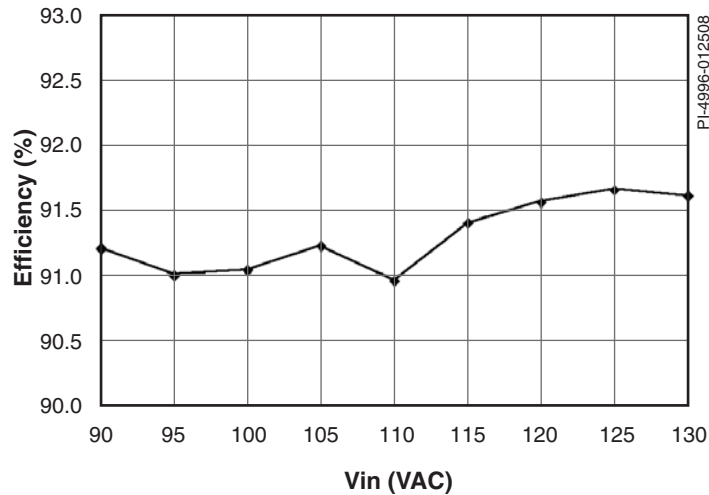

Figure 2. Line Voltage (VAC) vs. Efficiency (%).
- Very high efficiency ( $>90\%$ ) throughout operating range (see Figure 2)